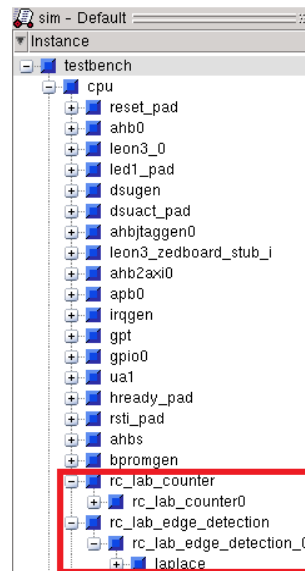

Figure 2: Integration of Counter and Hardware Accelerator Modules on LEON3 using APB
- Repeat the simulation. The expected output is presented in Figure 2
- In this step, the counter as well as the hardware accelerator are integrated in the system as depicted in Figure 2